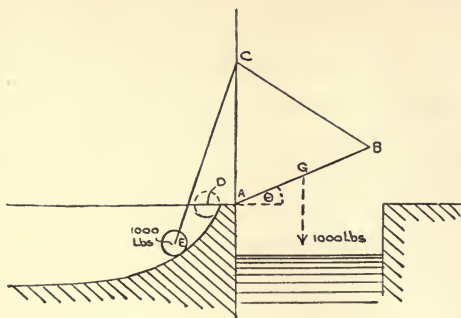

Fig 2
3. A drawbridge *AB* (see Fig. 2) is counterbalanced by a weight *E* which is connected to the outer end of the bridge by a rope *ECB* passing over a pulley wheel at *C*. The weight descends along a curved incline and the shape of this incline is such that a balance is obtained for all positions of the bridge.